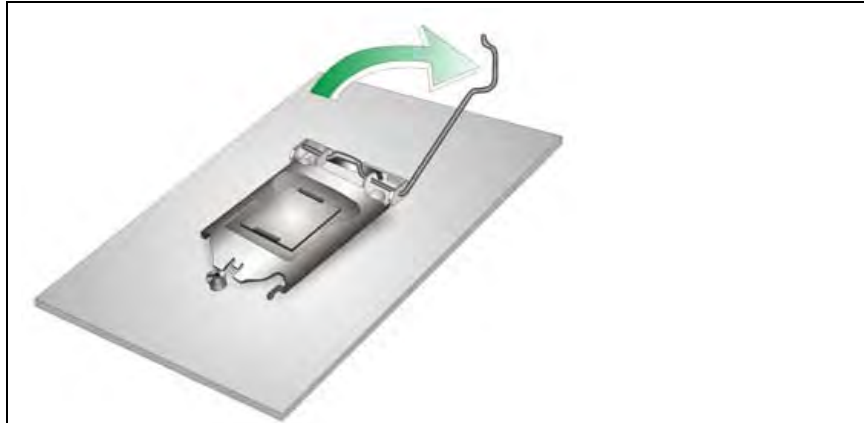

Figure 4-1: Disengage the CPU Socket Load Lever
Step 1: **Disengage the load lever** by pressing the lever down and slightly outwards to clear the retention tab. Fully open the lever. See **Figure 4-1**.